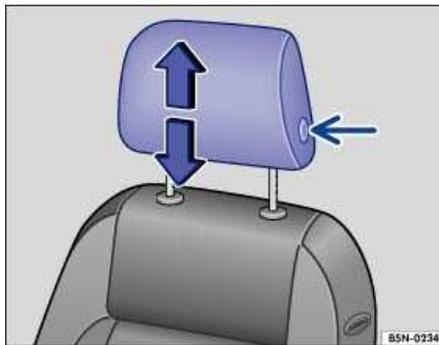
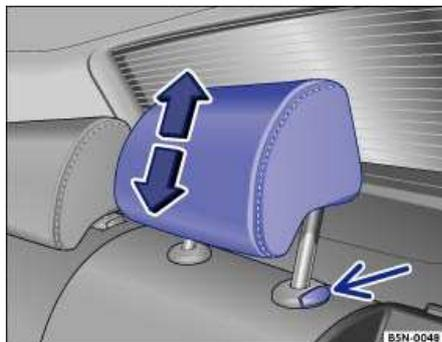

Fig. 52 Adjusting and removing the head restraints.
Fig. 53 Adjusting and removing the rear head restraints.
- To raise it, push the head restraint up. To lower it, press the button (arrow) and push the head restraint down ⇒ Fig. 52 or ⇒ Fig. 53. Correct height ⇒ page 94.